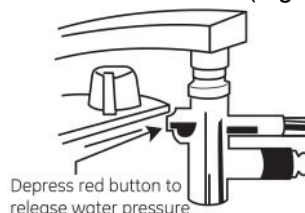

Fig. 11b
- Relieve water pressure from the quick connect assembly before disconnecting it from the faucet by depressing the red pressure relief button. (Fig. 11b)